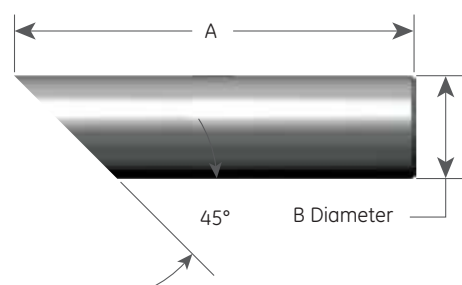

Figure 82: Drift Pin Specifications
4. **Drift Pins:** Two drift pins are required for the removal of the disc from the disc holder. Refer Figure 82 and Table 19 for Drift Pin specifications.